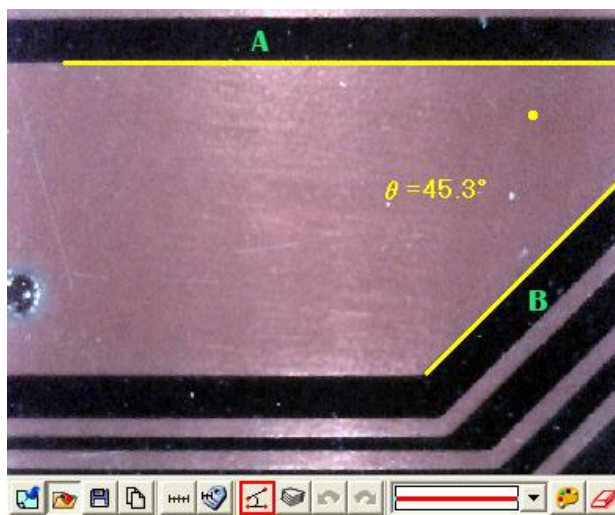

Fig 5-76 4 Points Chamfer
- (13) 4 Points Angle: Use  to measure an angle but only see 2 unparallel lines shown on the object. See Fig 5-76, to draw a 1st line from the object (see line A), and to draw the other unparallel line (see line B), the angle can be automatically calculated. See Fig 5-76. There is a small dot show 45.3°.